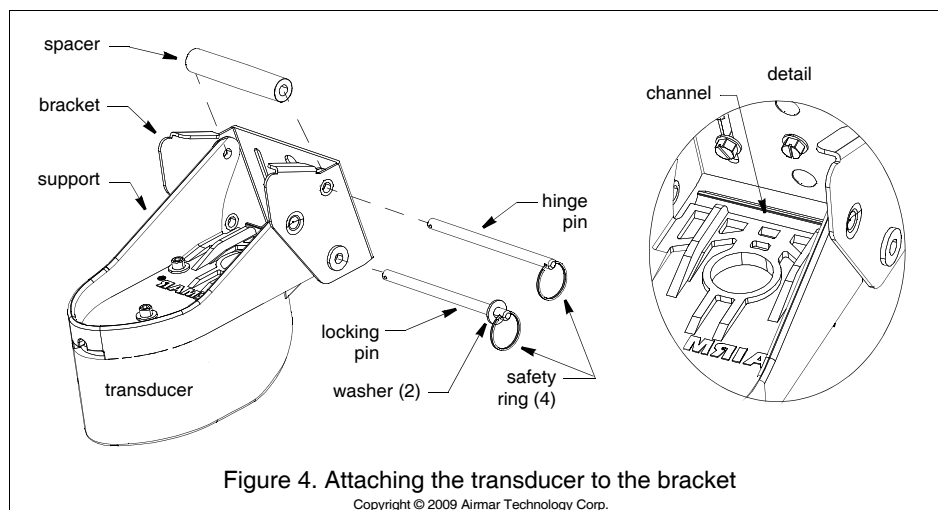

Figure 4. Attaching the transducer to the bracket
3. Attach a safety ring to one end of each pin (Figure 4).
2. Remove the transducer assembly from the bracket by removing the locking pin and the hinge pin (Figure 4). Hold the bracket with any shim(s) in place against the transom at the marked location. Draw an "X" at 12mm (1/2") from the top and the bottom of each slot (Figure 6).
1. Apply marine sealant to the threads of four of the hex-washer-head screws to prevent water seepage into the transom. Being sure any shim(s) is in place, screw the bracket to the hull using a socket wrench (Figure 4). *Do not tighten the screws at this time.*
5. Using the vertical adjustment space in the bracket slots, slide the assembly up or down until the bottom inside corner of the transducer projections 0–3mm (0–1/8") below the bottom of the hull (Figure 1). When you are satisfied with the position of the transducer, tighten the four bracket screws. For clear access to the screws, remove the transducer assembly from the bracket (Figure 4). *When reattaching, be sure to include the spacer.*
For clear access to the screw, remove the transducer assembly from the bracket (Figure 4). *When reattaching the transducer, be sure to include the spacer.*